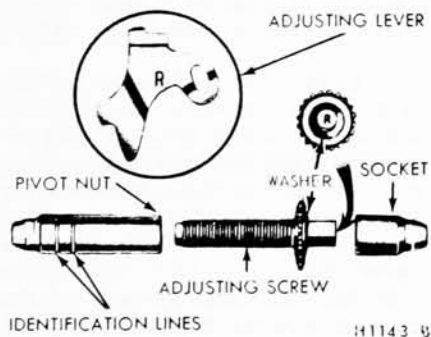

FIG. 15—Adjusting Screw and Lever Identification
Interchanging the brake shoe adjusting screw assemblies from one side of the car to the other would cause the brake shoes to retract rather than expand each time the automatic adjusting mechanism operated. To prevent installation on the wrong side of the car, the socket end of the adjusting screw is stamped with an R or L (Fig. 15). The adjusting pivot nuts can be distinguished by the number of grooves machined around the body of the nut. Two grooves on the nut indicate a right thread, one groove indicates a left thread.
11. Hook the cable hook into the hole in the adjusting lever. The adjusting levers are stamped with an R or L to indicate their installation on a right or left brake assembly (Fig. 15).